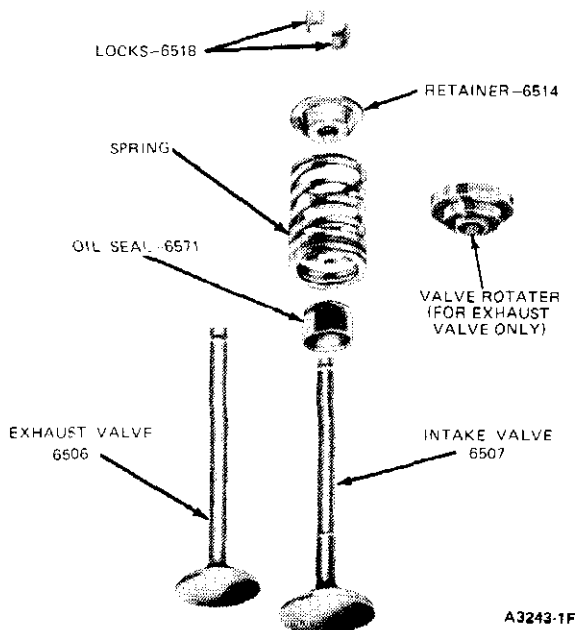

FIG. 40 Valve and Related Parts
3. Install each valve (Fig. 40) in the port from which it was removed or to which it was fitted. Install a new stem seal on the valve. Use a 5/8-inch deep wall socket and a light hammer or mallet to seat the seal on the valve system.
4. Install the valve spring over the valve, and then install the spring retainer. Compress the spring and install the retainer locks (Fig. 40).